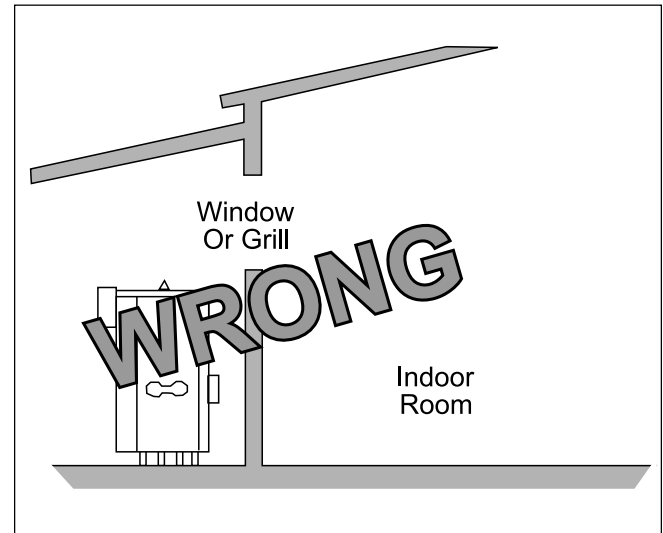

Figure 10. Incorrect Outdoor Installation.
3. Never install the boiler under any kind of roof overhang. Do not place the boiler below or adjacent to any doors, windows, louvers, grills, etc. which connect in any way with an inhabited area of a building. This includes other structures such as garages or utility rooms (see Figure 10).